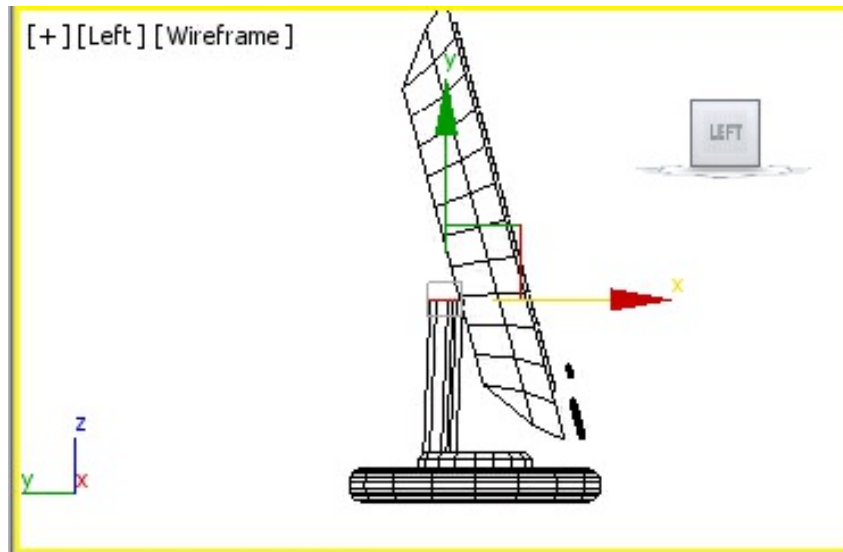

Figure 8-154 The support geometry in the Left viewport after moving it horizontally
22. In the Left viewport, move the cursor over the horizontal axis and drag the selected polygons horizontally toward the right side until they touch *LCD monitor*, as shown in Figure 8-154.